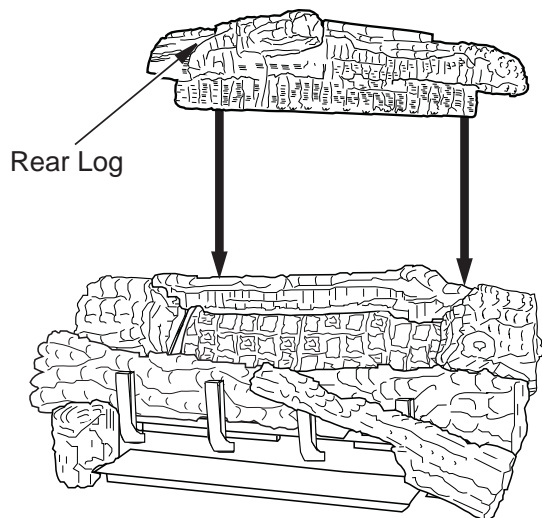

Figure 31 - Installing Rear Log
9. Rest the rear log (18" D-069, 24" & 30" D-043) on the chassis behind the rear burner as shown in **Figure 31**. The bottom of the rear log will sit into the rear log supports.